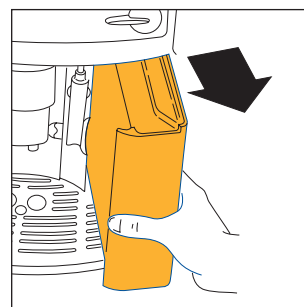

Fig.1
- Remove the water tank (Fig.1), rinse it and fill it with fresh water, without exceeding the MAX line. When removing the tank, the milk frother must always be positioned towards the centre of the machine, otherwise the tank cannot be removed.